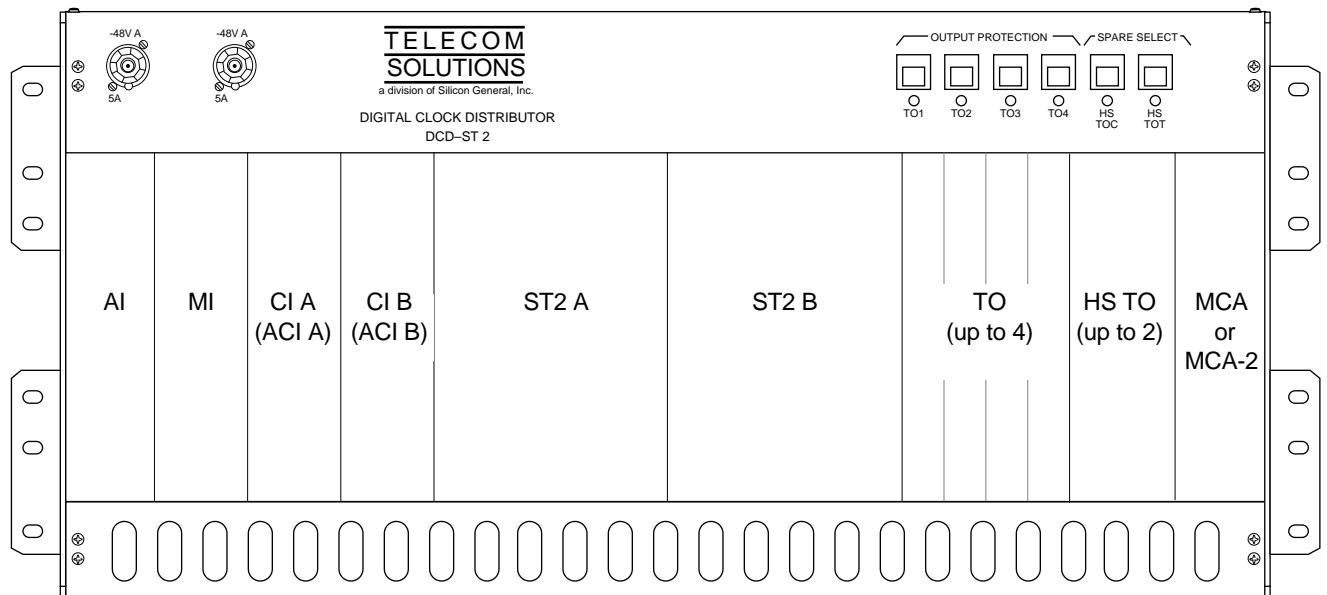

Figure 1. DCD-ST2 Master Shelf
3.27 Figure 1 shows the ST2 master shelf which houses common equipment (an AI card, CI or ACI cards, and ST2 cards), and up to four TOx A cards. A fully configured ST2 System (four shelves) holds up to 34 TOx A or SCIU cards, or combinations of each. The ST2 shelf cannot be used as an expansion shelf.